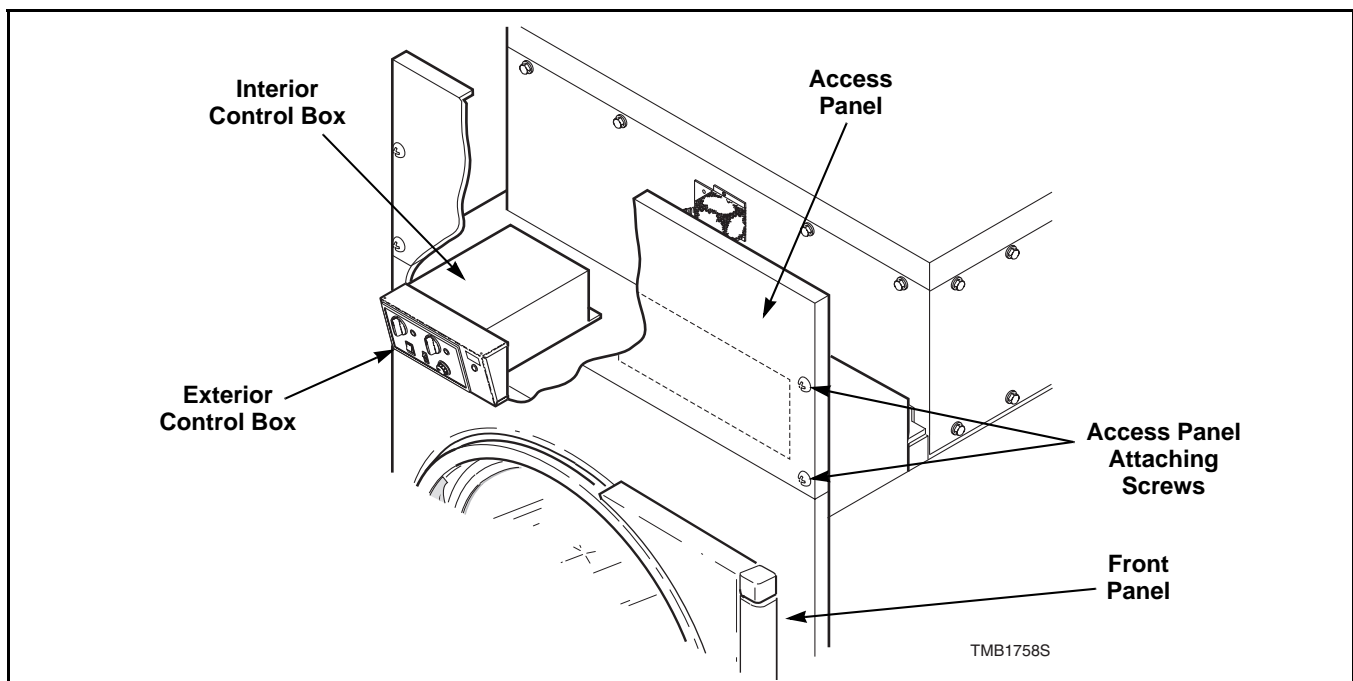

Figure 1
Refer to *Figure 1*.
- Lift access panel off top edge of front panel and pull panel forward. Refer to *Figure 1*.
- a. Remove four screws holding access panel to cabinet. Refer to *Figure 1*.
- b. Lift access panel off top edge of front panel and pull panel forward. Refer to *Figure 1*.
- a. Remove four screws from interior control box cover. Refer to *Figure 1*.
- a. Remove screws from interior control box cover. Refer to *Figure 1*.
- b. Remove screws from exterior control box cover and remove cover. Refer to *Figure 1*.
- c. Remove light through exterior control box. Refer to *Figure 1*.
- c. Remove screws from external control box and remove cover. Refer to *Figure 1*.